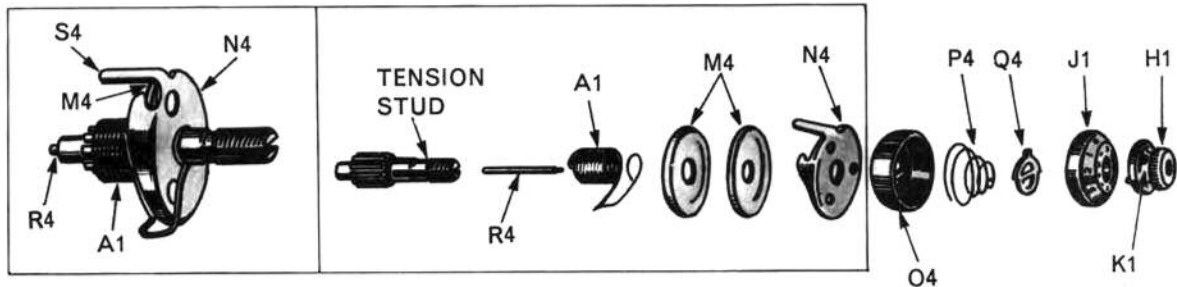

Fig. 20. Needle Thread Tension Assembly.
**REMOVAL:** (See Fig. 20).
1. Turn thumb H1 to left (anticlockwise) until "O" on numbered dial J1 stops at center line on indicator O4, Fig. 20.
**NOTE:** IT IS NOT NECESSARY TO REMOVE TENSION STUD FROM MACHINE. IT IS SHOWN REMOVED IN FIG. 20. TO ILLUSTRATE COMPLETE ASSEMBLY. SEE PAGE 9 FOR INSTRUCTIONS ON REMOVAL OF TENSION ASSEMBLY AS A UNIT.
1. Make certain that tension releasing pin R4 is in place as shown in insert, Fig. 20.
4. Align coils of spring with holes in discs and place this assembly on tension stud as shown in insert Fig. 20 Extension S4 of thread guard N4 enters hole provided in machine head.
5. Replace indicator O4, Fig. 20 with open side facing out and with plus (+) and minus (-) signs at top.
6. Hold these assembled parts against shoulder of stud and place tension spring P4, Fig. 20, so that the half coil at front is in the lower position, on tension stud.